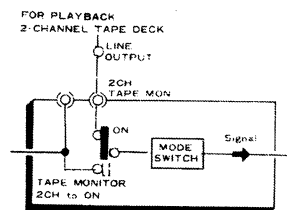

Fig. 19
1. According to the TAPE terminals to which the tape deck is connected, depress the appropriate TAPE MONITOR 2CH, 4CH-1, 4CH-2 or DOLBY NR ADAPTOR button (Figs.19,20).